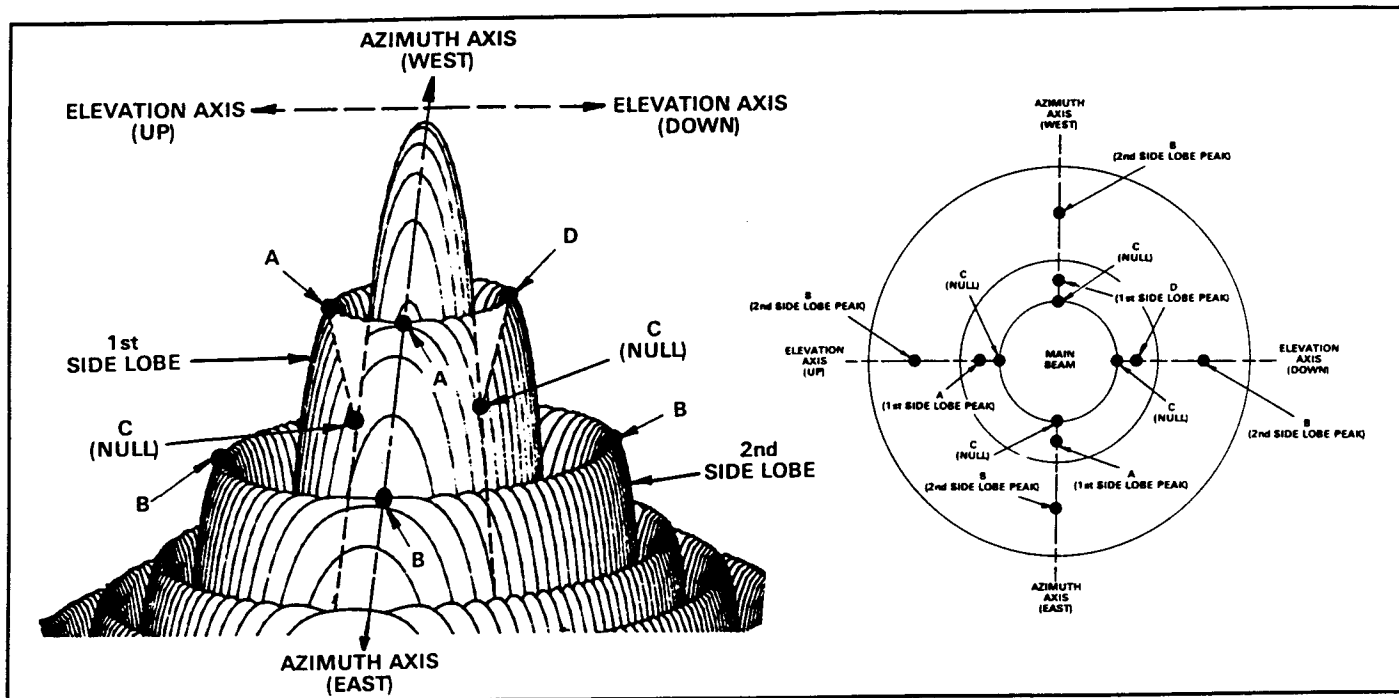

Figure 3. Antenna Radiation Pattern Topographical Diagram With Plan View
2.4 With the antenna peaked on a side lobe in azimuth and/or elevation (refer to Figure 3, position A), move the antenna in azimuth while observing the spectrum analyzer screen.